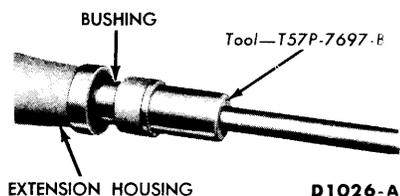

FIG. 4—Extension Housing Bushing Installation
4. When installing a new bushing use the special tool shown in Fig. 4